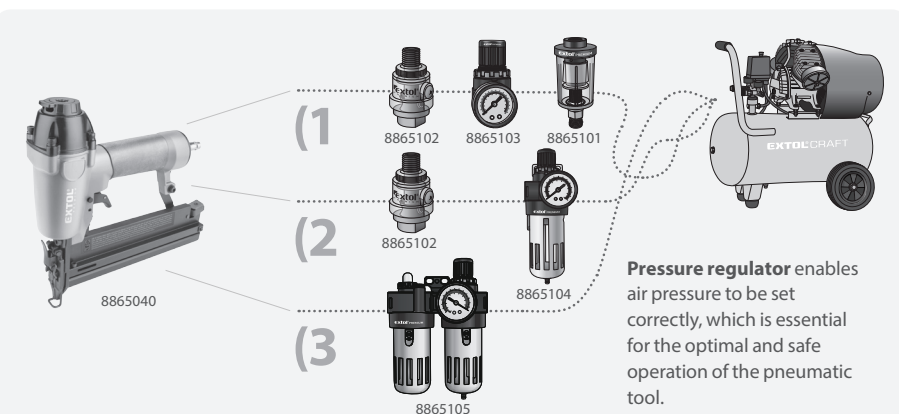

Fig. 4
- In the event that at the air outlet from the compressor there is neither a **pressure regulator**, which regulates the air pressure at the outlet from the compressor (this is not a pressure gauge that only measures the pressure in the vessel), nor a **condensate separator**, it is necessary, apart from regularly adding oil into the pneumatic tool, to install an additional **pressure regulator and condensate separator according to the diagram marked as 1), 2) or 3) in fig. 4.**
- The device for **separating/removing the condensate** must always be installed as the **first element** immediately after the compressor so that it removes moisture from the air prior to its entry into the **pressure regulator** or **oiler**, see diagram 1), fig. 4. The **condensate separator**, **pressure regulator** and also the **oil lubricator (oiler)** may only be part of a single piece of equipment, see diagram no. 3), fig. 4.
- The device for adding oil (oiler) must be installed if possible on the handle of the nail/staple gun so that the oil enters the pneumatic tool directly. In the event of an installation of a device a part of which is an oiler (diagram 3), fig. 4), it is necessary for the length of the connection hose of the hose with the tool to be as short as possible so that the oil does not accumulate in the hose and only enters the tool. The oiler must not be installed in front of the pressure regulator or the condensate separator so that these devices are not affected by the oil.